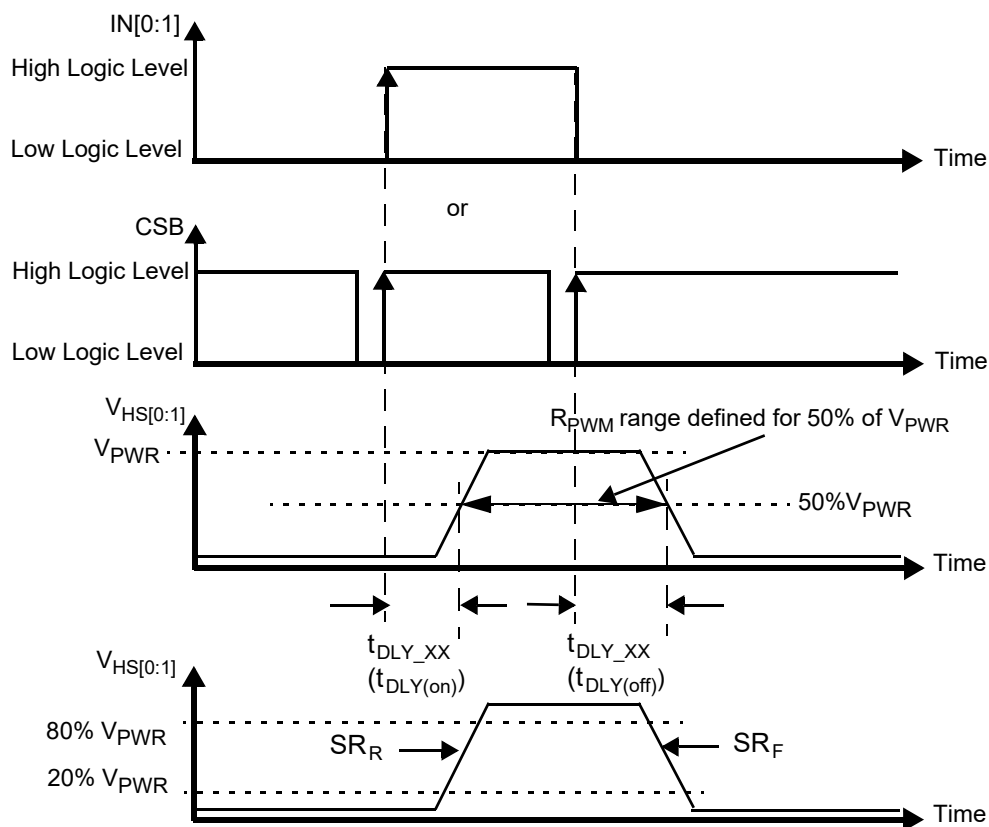
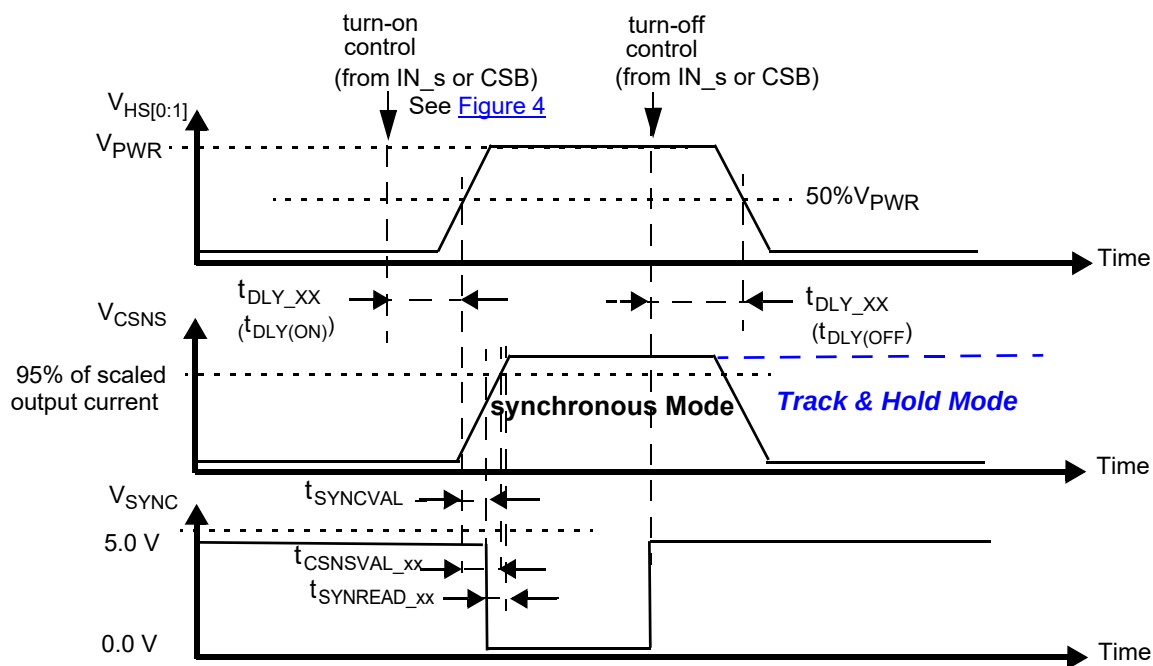

Figure 4. Output voltage slew rate and delay
Figure 9. Synchronous and Track & Hold current sensing modes: associated delay and settling times
27. Rising and Falling edge slew rates specified for a 20 % to 80 % voltage variation on a $10.0\text{ }\Omega$ resistive load (see Figure 4).
29. Time required to switch off the channel after detection of overtemperature (OT), overcurrent (OC), SC or UV error (time measured between start of the negative edge on the FSB pin and the falling edge on the output voltage until $V(\text{HS}[0:1]) = 50\%$ of V_{PWR}).
30. Settling time ($= t_{CSNSVAL_XX}$), SYNC output signal delay ($= t_{SYNVAL_XX}$) and Read-out delay ($= t_{SYNREAD_XX}$) are defined for a stepped load current ($100\text{ mA} < I(\text{LOAD}) < I_{OCLX_A_0}$ FOR $\text{CSNS_RATIO_S} = 1$, AND $300\text{ mA} < I(\text{LOAD}) < I_{OCLX_A_0}$ FOR $\text{CSNS_RATIO_S} = 0$). (see Figure 9 and Output current monitoring \(CSNS\)).
To synchronize current sensing with an external process, the SYNC signal can be connected to a digital input of an external MCU. SYNC is asserted logic low when the current sense signal is accurate and ready to be read. The current sense signal on the CSNS pin has the specified accuracy $t_{SYNREAD_XX}$ seconds after the falling edge on the SYNC pin (Figure 9) and remains valid until a rising edge is generated. The rising edge that is generated by the SYNC pin at the turn-OFF instant (internal or external) may also be used to implement synchronization with the external MCU. Parameter $t_{SYNCVAL_XX}$ is defined as the time between the instant at the middle of the output-voltage rising edge ($HS[0:1] = 50\%$ of V_{PWR}), and the instant at which the voltage on the SYNC-pin drops below 0.4 V (V_{SOL}). The SYNC pins of different devices can be connected together to save micro-controller input channels. However, in this configuration, the CSNS function of only one device should be active at a time. Otherwise, the MCU does not determine the origin of the SYNC signal. The SYNC pin is open drain and requires an external pull-up resistor to V_{DD} .